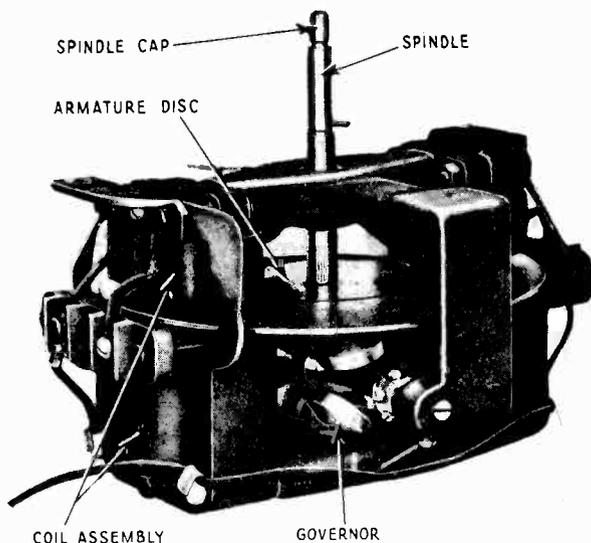

Figure 10—Phonograph motor mechanism
- (c) Turning the speed regulating screw (Figure 10) clock-wise allows the motor to run faster and vice versa. Adjust by trial until the speed is 78 revolutions per minute as determined from a full minute's count.
- (c) Release the round head machine screw and the two hexagon head machine screws holding the coil unit, which is to be replaced, to the motor frame. (See Figure 10).
- (b) Unscrew governor bearing screw governor in Figure 10.
- (f) After assembling the motor the lock nuts around the spindle adjusting screw, Figure 10, should be loosened and the spindle adjusting screw should be adjusted until the motor disc turns freely in the center of the air gap of the coil units.